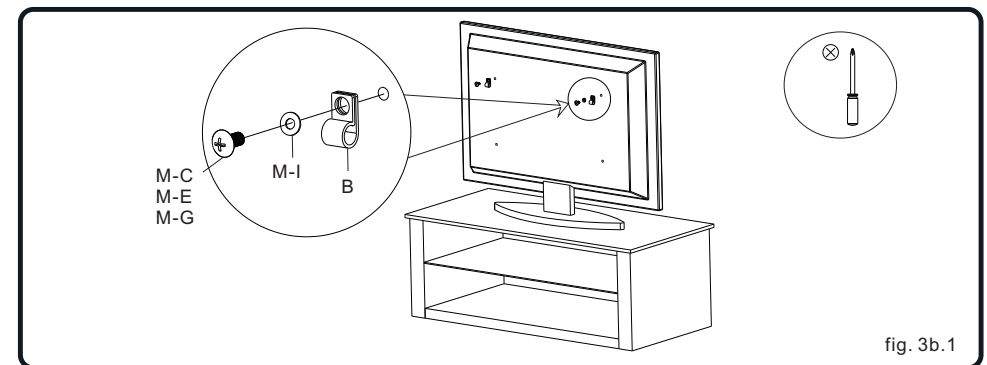

fig. 3b.1
- Attach the wire clip to the back of the screen using the appropriate combination of screws, washers, as shown in fig.3b.1.